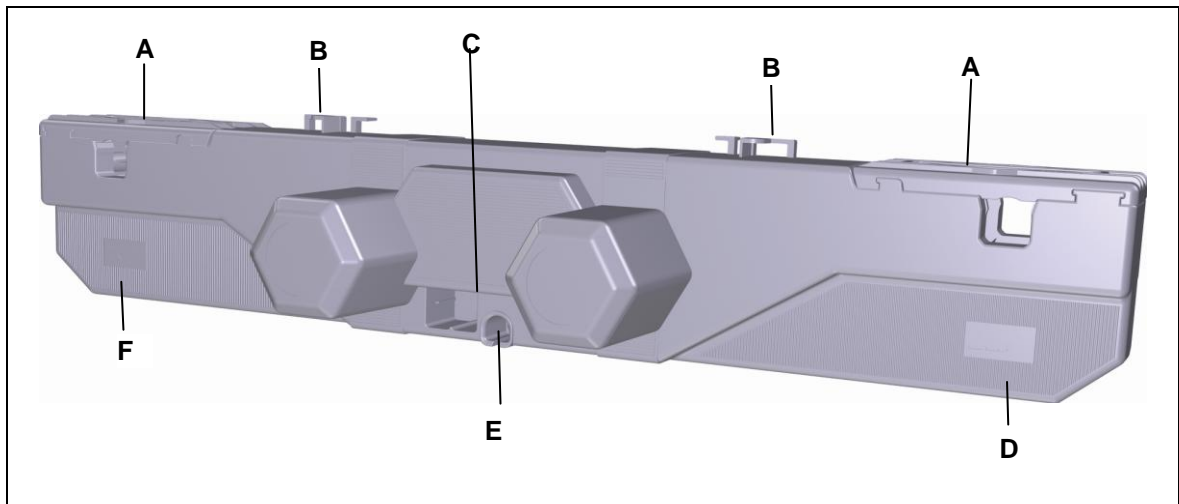

Figure 3 Main components of the DUOMAT 3 double drive
- 2 Pull strongly on the shutters to the side (A). The slots (B) for the brackets (D) are uncovered.
- 3 Align the DUOMAT 3 next to your product. The slots for the head and foot sides must be properly aligned with the correct brackets on your product (refer to the symbols on the DUOMAT 3 as described in Figure 3).
- 4 Push the drive in so that the brackets (D) fit into the slots (B). Press in until the tubes snap into the brackets.
- 5 Close the shutters (A) on the drive by snapping them back in. The DUOMAT 3 is now securely attached to the end product.